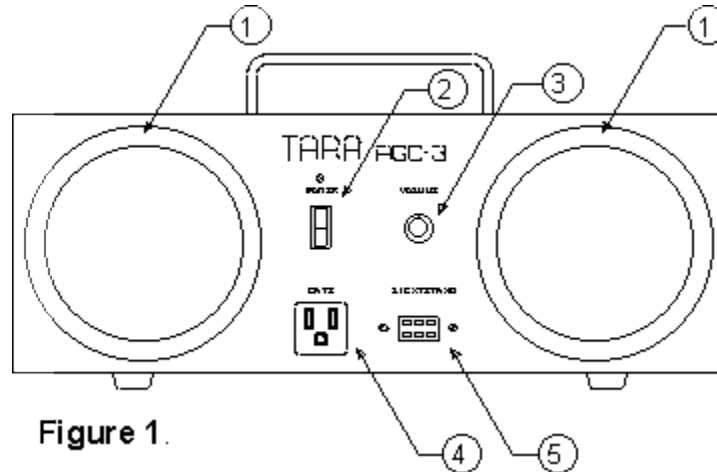
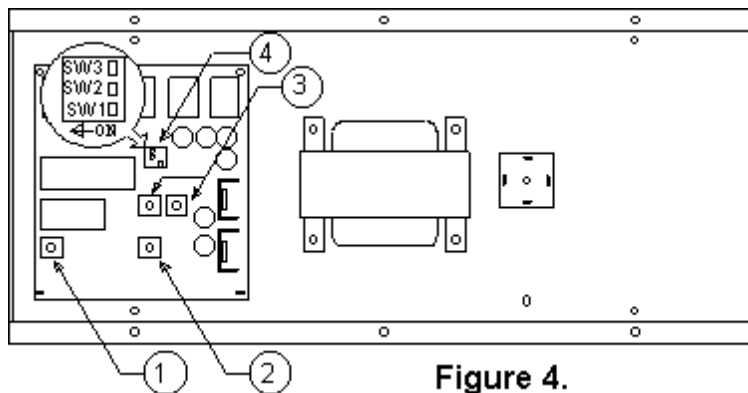

Figure 1.
Figure 4.
The AGC-3 gate controller is an all-in-one unit, complete with built-in speakers and microphone. With a microprocessor controlling all functions, the unit is accurate, flexible and user friendly. The front panel of the enclosure (see Fig.1) contains the following controls and components: (1) Two automotive type speakers
cable and the power cord. (2) A four pin accessories outlet. This outlet is typically used to power one or two gate magnets, but can also be used for special functions (refer to the Specifications page of this manual). (3) A 120 VAC utility outlet. This outlet is not switched and will be on as long as the power cord is connected to an energized outlet. (4) One PA amplifier output. This output can be used with an external amplifier. The output level is controlled by the volume control (item 3 in figure 1). (5) Two external speaker outputs. One or both outputs can be used with external speakers. This allows the operator to position the speakers in a different place than the gate controller. When inserting a plug in either jack, the corresponding internal speaker is turned off.
The AGC-3 controller has a few internal adjustments. To gain access to these controls, **unplug the power cable**, then remove the top of the AGC-3. If changes to the factory settings are necessary there are two potentiometers, two rotary switches and one three position switch (see Fig. 4). The volume control (1) is used to adjust the loudness of the electronic horn relative to the voice. Turning the potentiometer clockwise will increase the loudness of the horn. The tone control (2) changes the pitch (frequency) of the electronic horn. Turning the potentiometer clockwise will increase the pitch. The two rotary switches (3) affect the timing of the voice commands. These switches have been factory set according to league standards and should not be changed without consulting with league officials. On the three position switch (4), SW1 and SW2 controls the mode of the microprocessor, and should not be changed without consulting the factory. SW3 controls the operation of the Gate outlet (item 4 in figure 1). When this switch is in the off position, the gate used must have up/down capability (no magnets used to hold and drop the gate). If magnets are used and the gate only has air assist when being raised, SW3 should be in the on position.
3. *Poor sound quality on the electronic horn:* If the sound of the horn is distorted, the front panel volume control or the internal horn volume control (item 1 in figure 4) may be set too high. If the sound of the electronic horn is too quiet or missing, the internal horn volume control may be set too low. If the tone of the horn is too low or too high, the internal horn tone control (item 2 in figure 4) may need adjustment.
4. *Poor sound quality on the voice:* If the voice is distorted, the front panel volume control may be set too high. Turn the volume control (item 3 in figure 1) counter-clockwise.